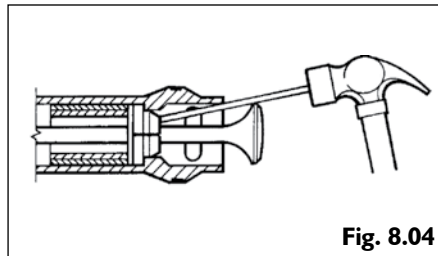

Fig. 8.04
- 4 Remove the bolt (Item 3), split buffer (Item 2), packing ring (Item 4), split thrust collar (Item 5) and washer (Item 6) by tapping out using a soft metal rod and hammer as shown in Fig. 8.04.